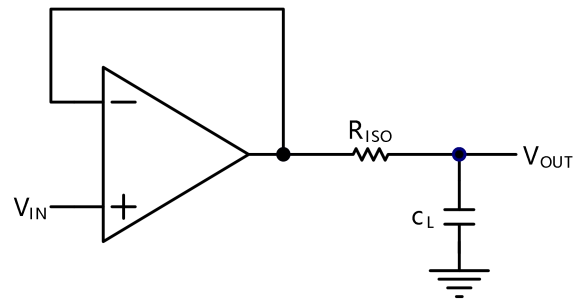
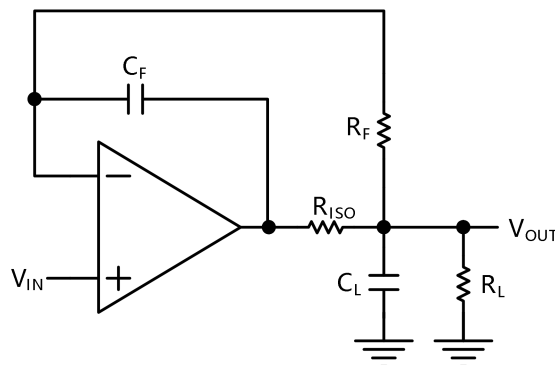

Figure 2. Indirectly Driving a Capacitive Load Using Isolation Resistor
Figure 3. Indirectly Driving a Capacitive Load with DC Accuracy
The CBM833X family is optimized for bandwidth and speed, not for driving capacitive loads. Output capacitance will create a pole in the amplifier's feedback path, leading to excessive peaking and potential oscillation. If dealing with load capacitance is a requirement of the application, the two strategies to consider are (1) using a small resistor in series with the amplifier's output and the load capacitance and (2) reducing the bandwidth of the amplifier's feedback loop by increasing the overall noise gain. Figure 2. shows a unity gain follower using the series resistor strategy. The resistor isolates the output from the capacitance and, more importantly, creates a zero in the feedback path that compensates for the pole created by the output capacitance.
The circuit in Figure 3 is an improvement to the one in Figure 2. R_F provides the DC accuracy by feed-forward the V_{IN} to R_L . C_F and R_{ISO} serve to counteract the loss of phase margin by feeding the high frequency component of the output signal back to the amplifier's inverting input, thereby preserving the phase margin in the overall feedback loop. Capacitive drive can be increased by increasing the value of C_F . This in turn will slow down the pulse response.